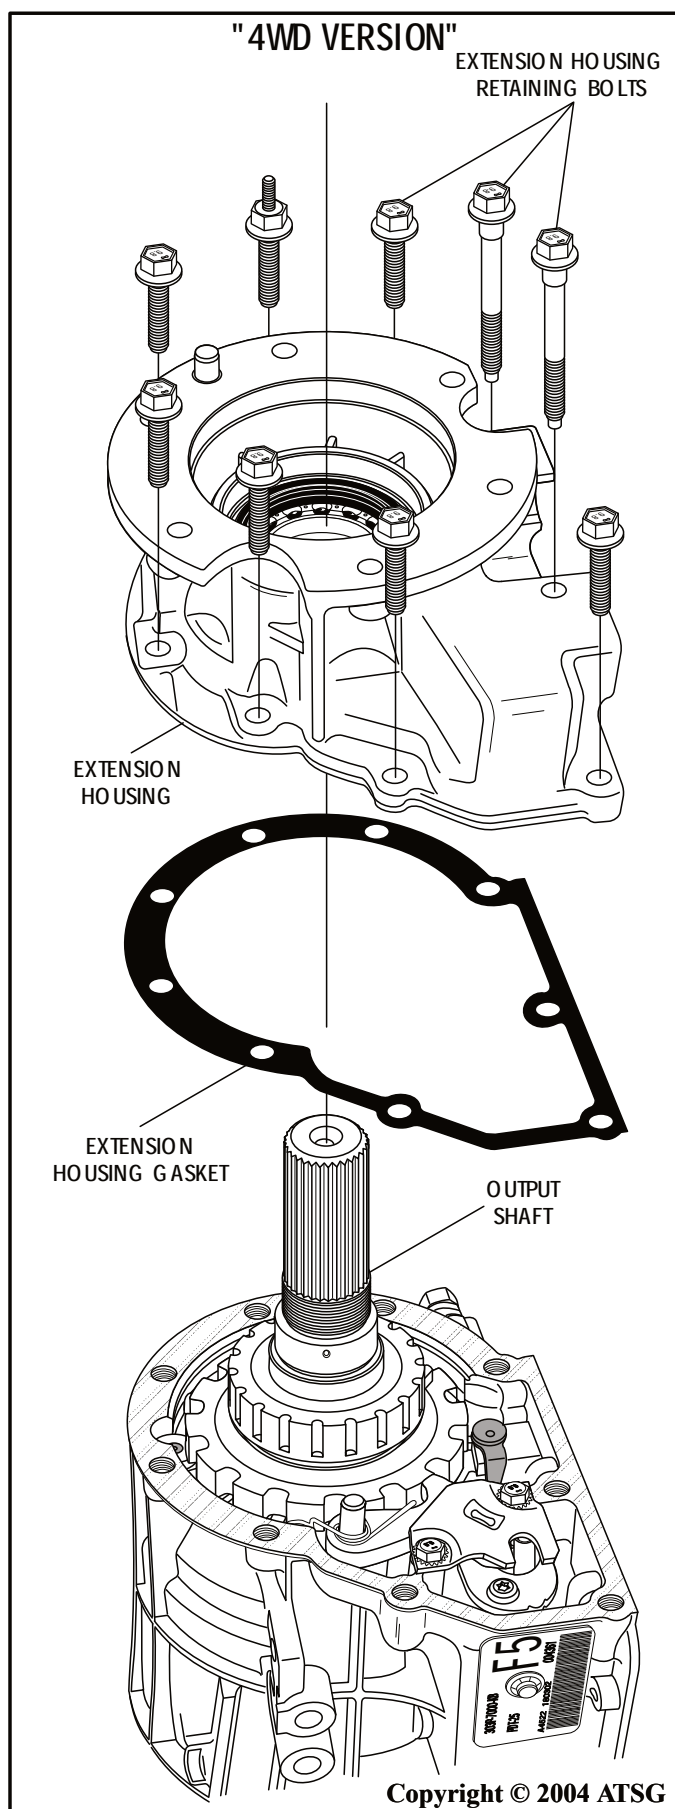

Figure 50
55. Remove the nine bolts retaining the extension housing, as shown in Figure 50.
56. Remove the extension housing, as shown in Figure 50, and set aside for component rebuild section.
57. Remove and discard extension housing gasket, as shown in Figure 50.